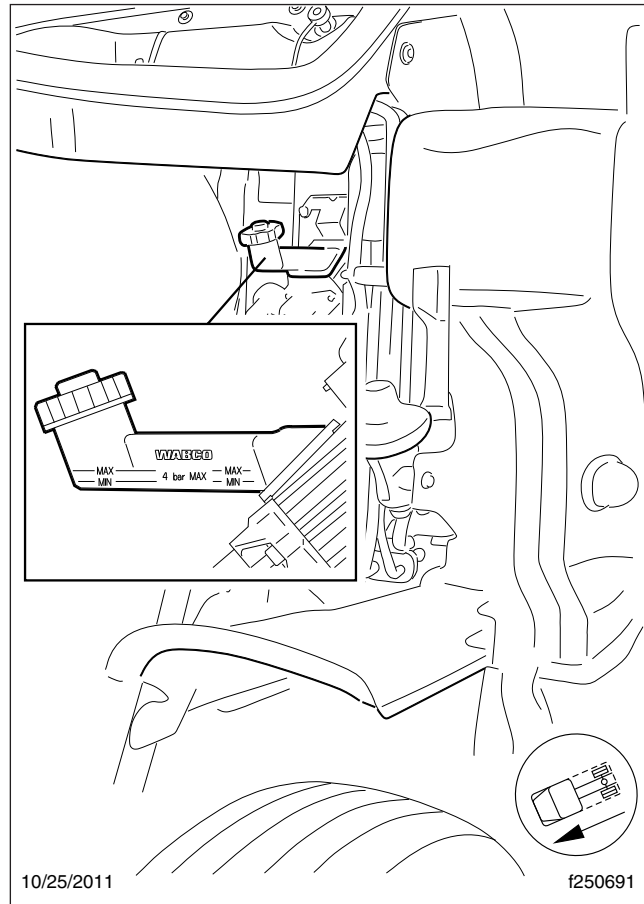

Fig. 3, Reservoir, Hydraulic Clutch Control
If the fluid level is below the MIN line, fill the reservoir with new DOT 4 brake fluid from a tightly sealed container until the level reaches the MAX line. See Fig. 3.
3. Remove the reservoir lid (see **Fig. 3**) and install the pressure bleed adaptor on the reservoir.